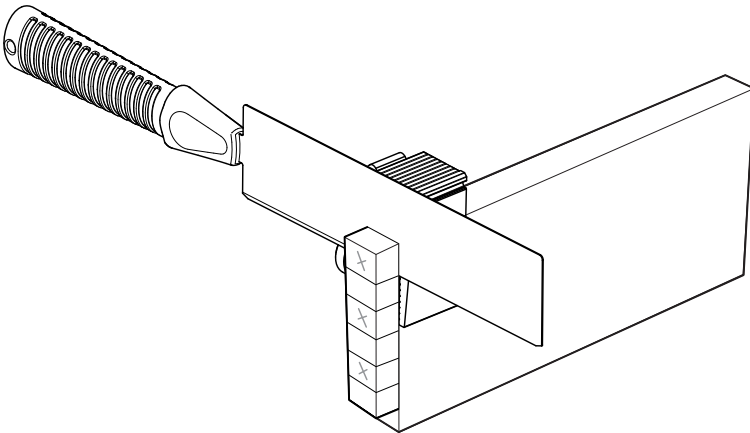

Figure 11: Removing waste material from ends of board.
1. Remove the board from the vise and reposition it horizontally. Clamp the right-angle saw guide on the end of the board and cut the **waste area**, being careful not to cut into the pins (see **Figure 11**). Repeat for the other side. Clean up the saw cuts with a sharp chisel if necessary.